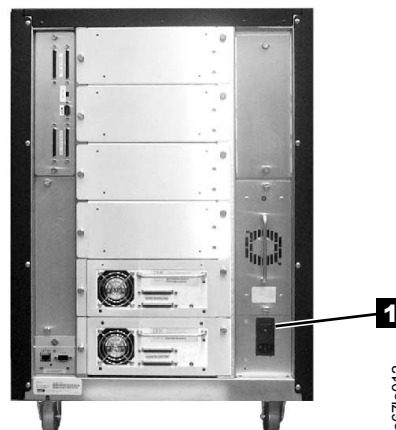

Figure 65. Main power switch
2. Push | on the main power switch ( **1** in Figure 65) to turn on the power.
2. Push O on the main power switch ( **1** in Figure 65 on page 76) to turn off the power. Power is removed from the tape library.
Push O on the main power switch ( **1** in Figure 65 on page 76) to turn off power. Power is removed from the tape library. All picker movements stop immediately.